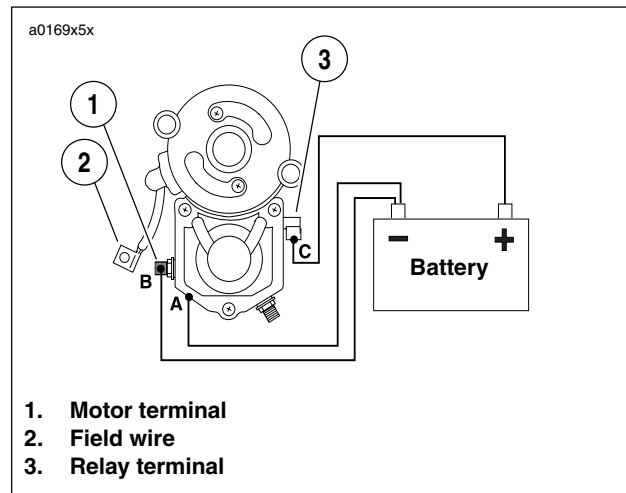

Figure 5-13. Pull-In Test
Do not disassemble solenoid. Before testing, disconnect field wire from motor terminal as shown in Figure 5-13.
1. See Figure 5-13. Using a 12 volt battery, connect three separate test leads as follows: